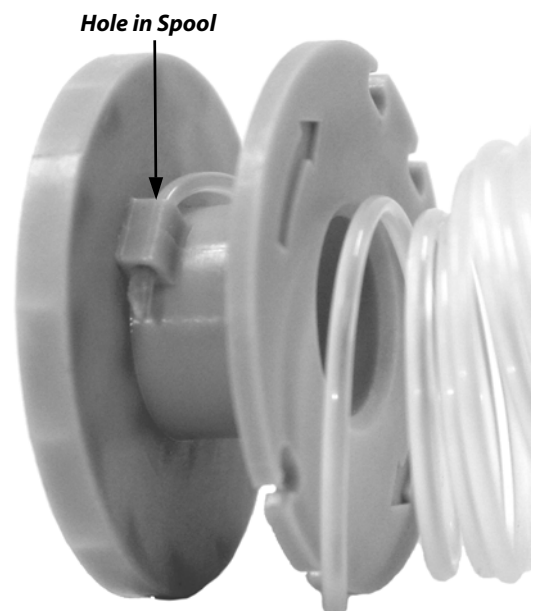

Figure 8
4. Insert one end of the Bulk Line into the Hole in the Spool as shown (Figure 8).